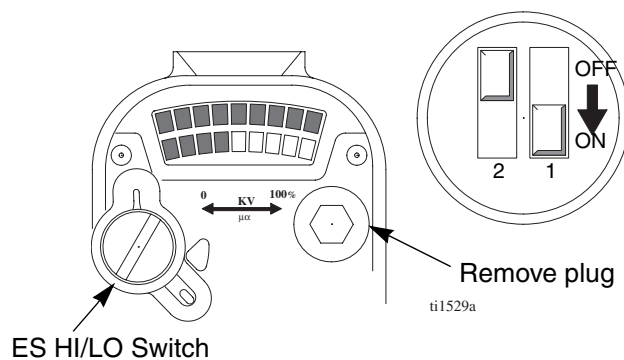

Fig. 8. Low Voltage Adjustment Switches
2. Remove the LO VOLTAGE adjustment plug. Set the desired voltage, using a small screwdriver to slide switches 1 and 2 ON or OFF, according to Table 4 . Also see Fig. 8.